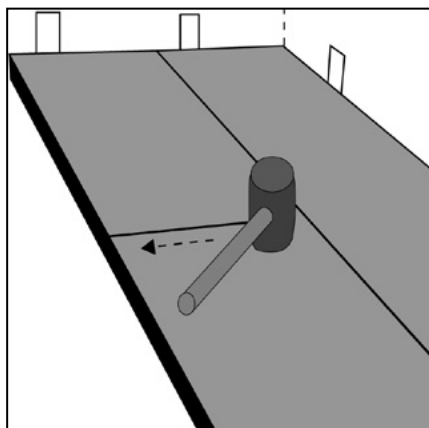

Figure 23 Ensure joints are fully engaged
- > Using the rubber mallet gently tap down the short joints along the short end just installed (fig. 23). If they don't re apply pressure until this is achieved.